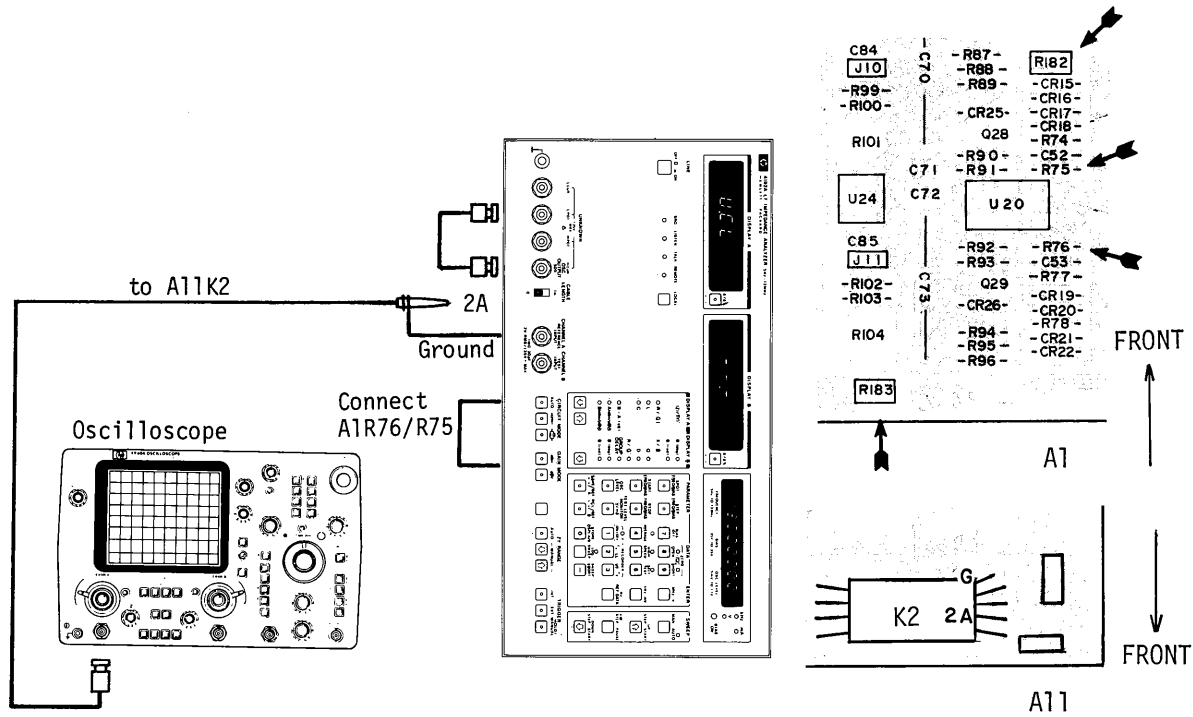

Fig. 5-14 A1 LCUR Amplifier Output Level Adjustment Setup.
- b. Connect the LPOT terminal to the HCUR terminal using the BNC-to-BNC cable, and connect the oscilloscope high input to pin 2A of A11K2 and low lead to the ground (G) pin as shown in Figure 5-14.